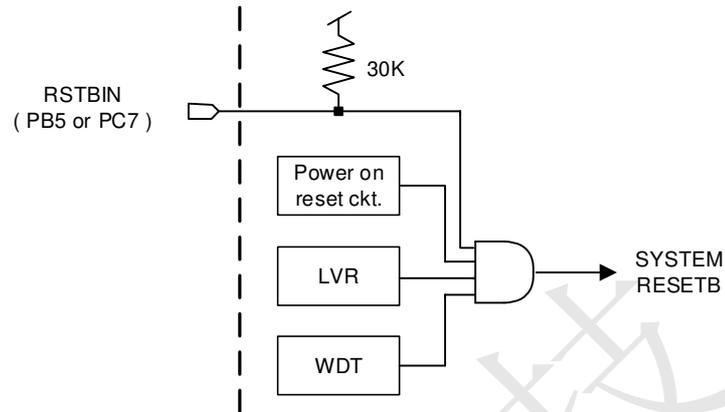

Figure 10.1 Reset system block diagram
TR16F096A(B) reset is come from four signals which are power on reset, low voltage reset(LVR), external IO PB5 or PC7 pin (by option) and WDT overflow reset, as shown in Figure 10.1. A dedicated external resetb input pin (by option) is provided to reset this chip, which has 30K ohm pull up resistor. The operation frequency of MCU will go back to BANK0 mode when reset occurred.